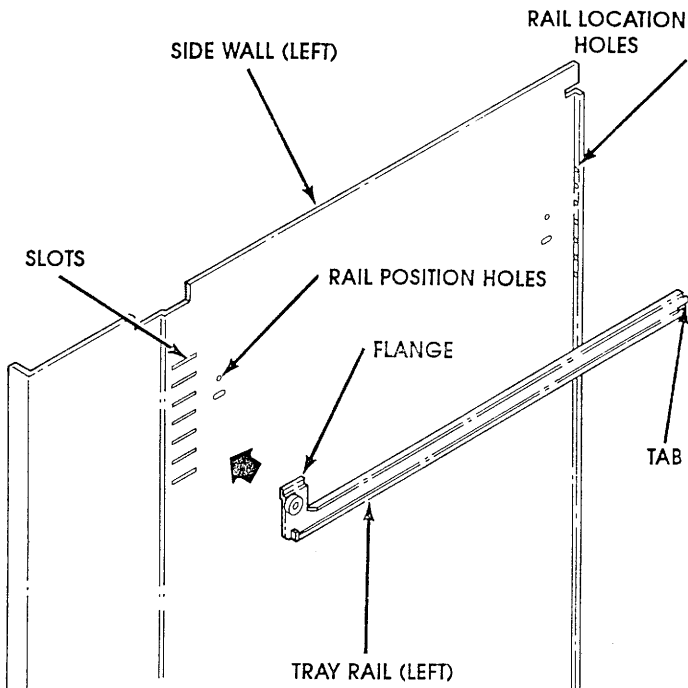

Figure 5
- Pull each rail forward to disengage its rear tab from the hole in the rear wall. See **Figure 5**.